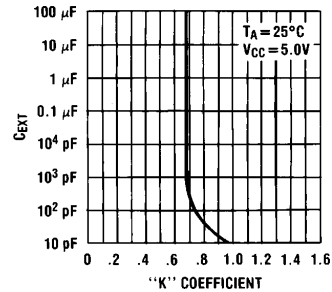

FIGURE 5
6. The "K" coefficient is not a constant, but varies as a function of the timing capacitor  $C_X$ . *Figure 5* details this characteristic.